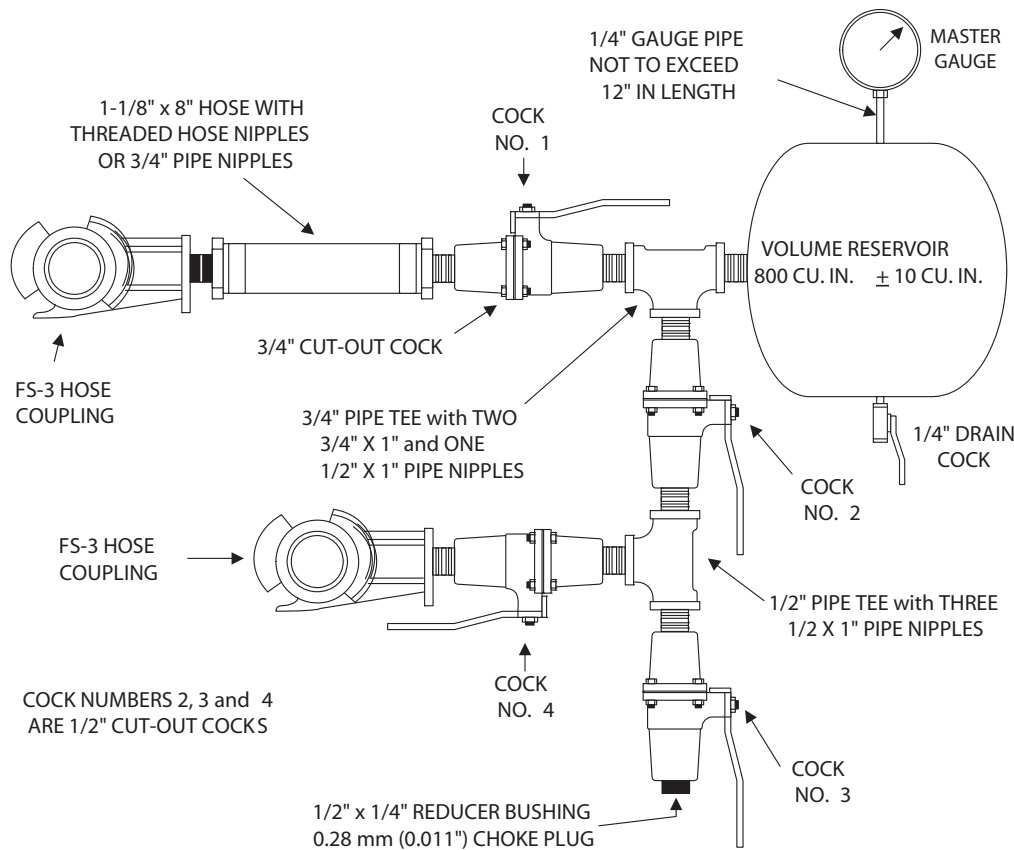

Fig. 5.2 Device for quarterly test of the single car testing device—alternate 1
5.0 QUARTERLY TEST FOR TESTING THE DEVICE (USING THE TEST APPARATUS IN FIG. 5.2)
5. Attach the end of the test device marked "BP" to the volume reservoir coupling of the test rack (Fig. 5.2) and then couple the supply line to the test device end marked "MR."